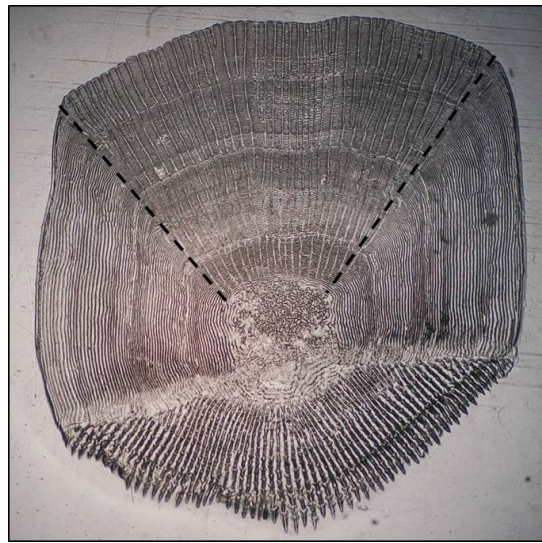

Figure 4: Striped bass regenerated scale. Focus is not clear and radii do not form a true V-shape.
3. The scale is not a regenerated scale (Figure 4);
1. The focus is unclear or the impression is of a regenerated scale (Figure 4);